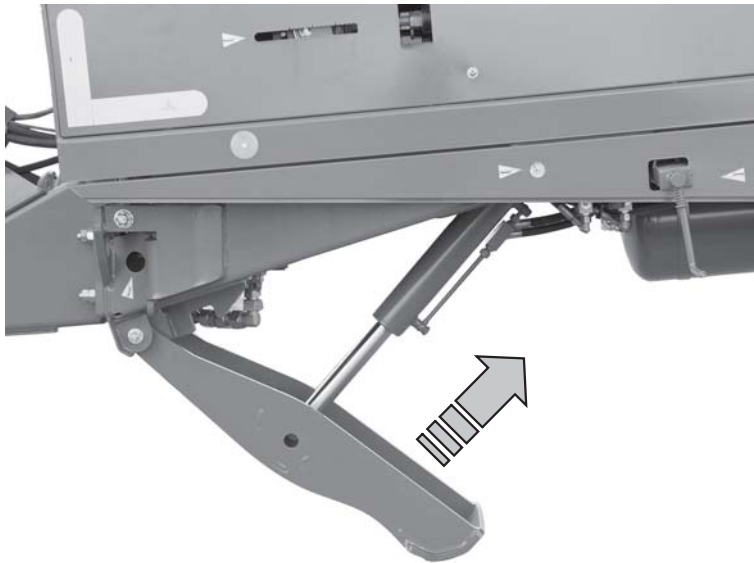

Figure 6.7: Retracting the support stand
7. Slowly retract the hydraulic support stand of the machine. Refer to figure 6.7.